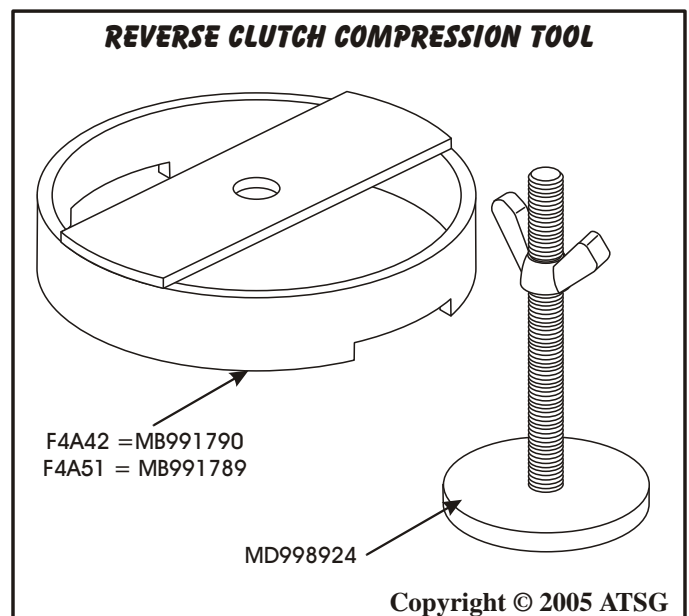

Figure 91
25. Install the clutch compressing tools that are shown in Figure 91.